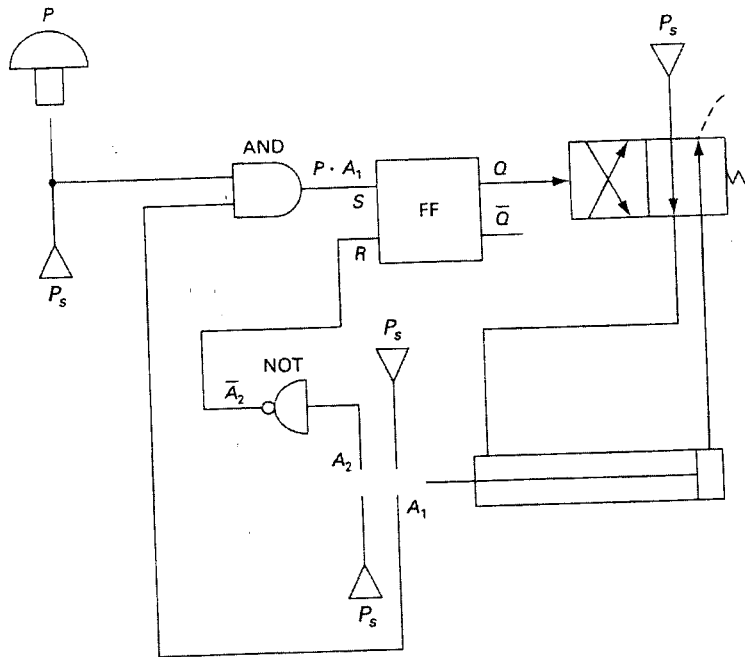

Figure S7.1
a) Explain the operation of fluid logic system in Figure S7.1.